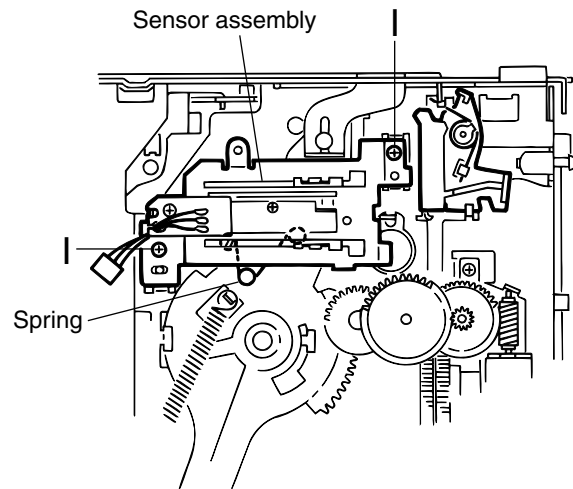

Fig. 12
■ Sensor assembly unit (See Fig.12)
■ Magazine lock arm (See Fig.12 and 13)